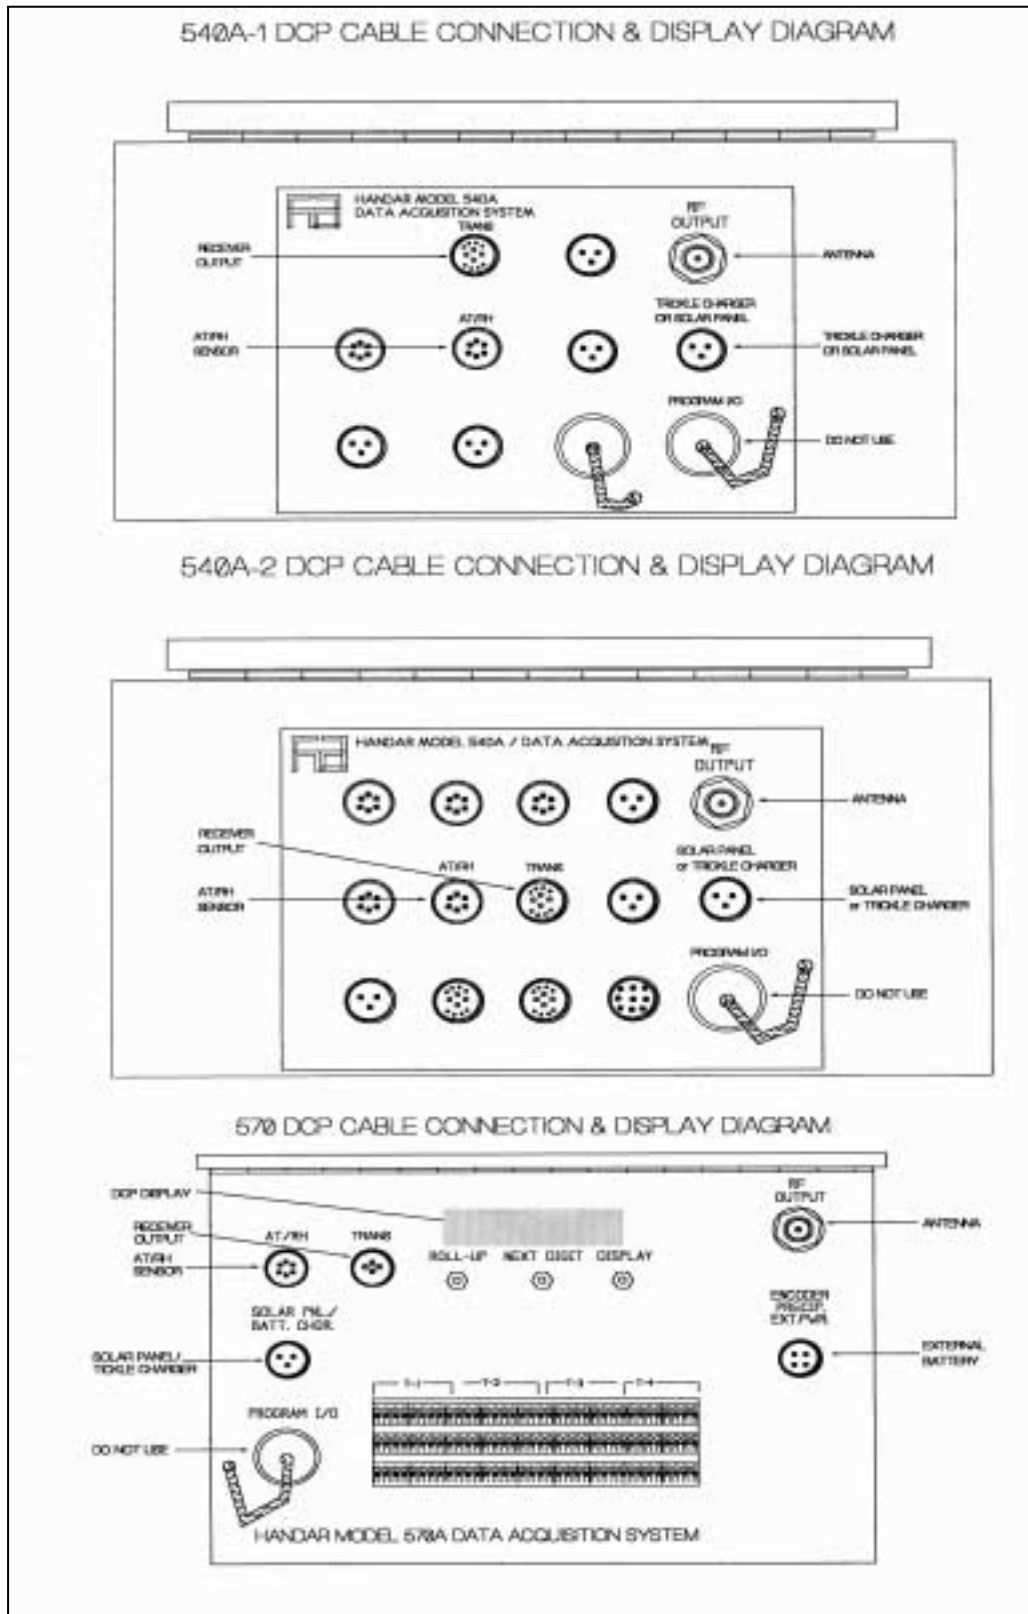

Figure 4-7. DCP Cable Connection and Display Diagram.
Three (3) DCP models (Model 540A-1, Model 540A-2, and Model 570) currently are in use in the IMPROVE transmissometer network. Cable connections and display readings (570 only) may need to be checked if a DCP malfunction is suspected (refer to Figure 4-7, DCP Cable Connection and Display Diagram). If it is determined that the DCP is malfunctioning, it will need to be turned off and returned to ARS for repair. These procedures are provided in TI 4110-3375, *Replacing and Shipping Transmissometer System Components*.